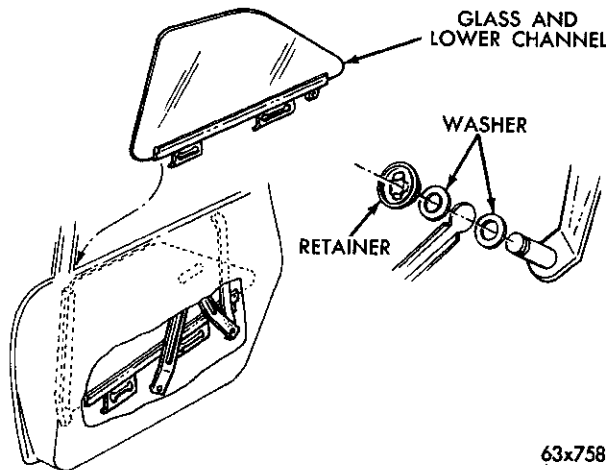

Fig. 74—Rear Door Glass Assembly (Chrysler Four Door Sedan)
- (3) Close the door and raise the glass to sealing position with the roof rail weatherseal.
- (4) Install and adjust the up stops.
- (5) Install the weathershield, trim panel, arm rest (if so equipped), the inside handles and the remote lock lever.
72. REAR DOOR GLASS (Four Door Sedan) (Fig. 74)
- (1) Lubricate the regulator arm pins and the glass lower channel slots (Fig. 74).
- (2) Enter the glass down into the door frame.
- (3) Engage the regulator arms into the glass lower channel and install the washers and retainers.
- (4) Install the run channel into the door frame.
- (5) Operate the glass up and down several times and check for ease of operation.
- (6) Install the weather shield, trim panel, arm rest (if so equipped), inside handles and the remote door lock lever.